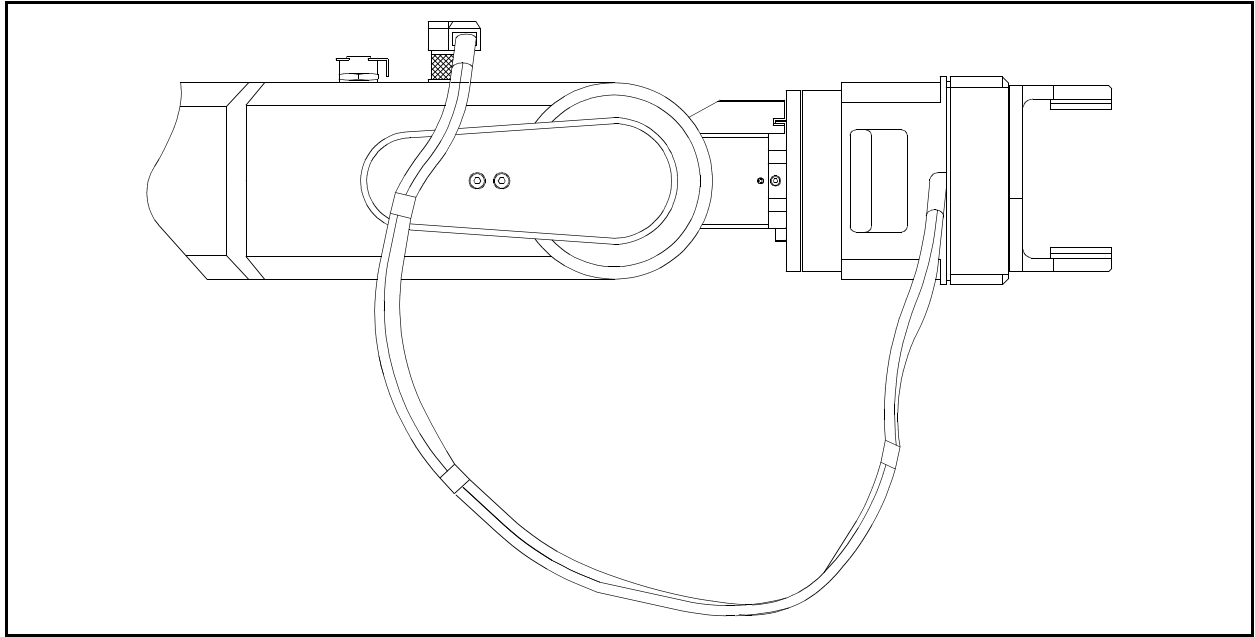

Figure 4-11: Connecting Gripper to SCORBOT-ER IX
3. Make sure the gripper cable is positioned as shown in Figure 4-11.
6. At the end of each work session (before turning off the controller), or before homing the robot, make sure the gripper's position is as shown in Figure 4-11.